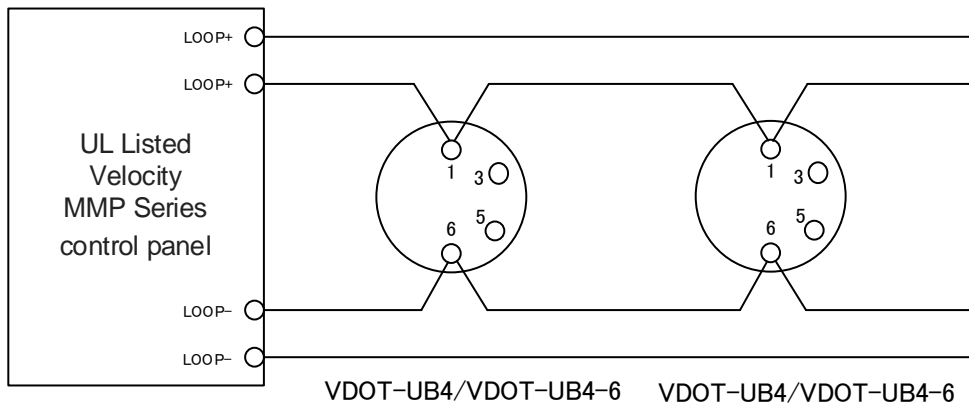
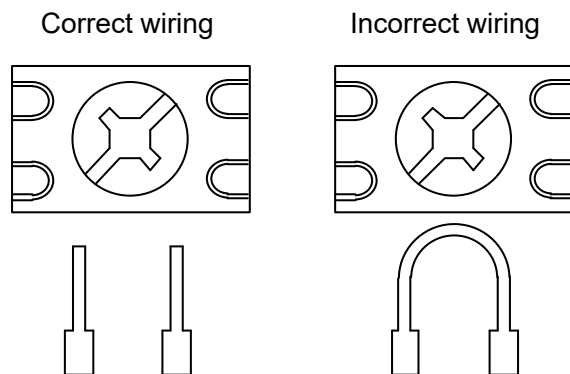

Figure 9: Wiring diagram for VDOT-UB4 and VDOT-UB4-6
Figure 10: Correct and incorrect wiring method
1. Pass the field wiring through the rear center cable opening in the mounting base. Install the base to the electrical box with screws via the base mounting holes. Connect the field wiring to the base terminals, as detailed in Figure 9. Do not use looped wire under terminals (See Figure 10).